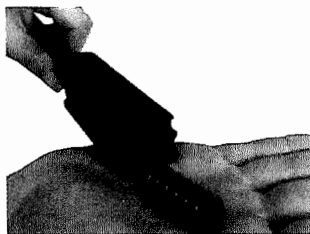

Fig. 20
5. Remove the inertia spring from its seat in the bolt, dropping it into the palm of your hand. (Fig. 20)